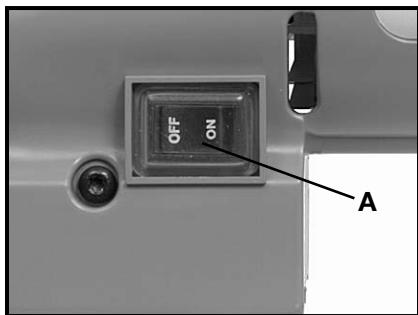

Fig. 15
The tool is equipped with a "rocker" type switch (A) Fig. 15 labeled "ON" and "OFF".